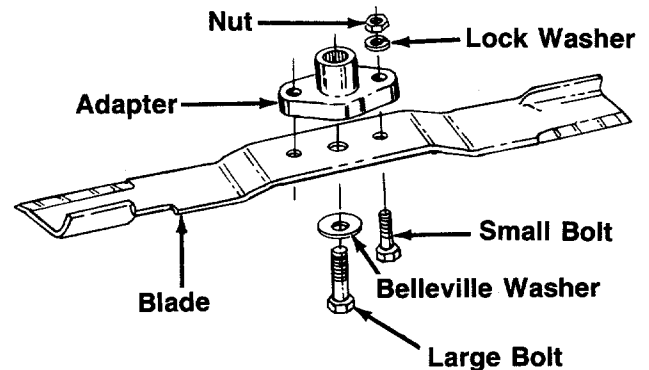

FIGURE 16.
1. Remove the large bolt and belleville washer which hold the blade and adapter to the blade spindle. See figure 16.